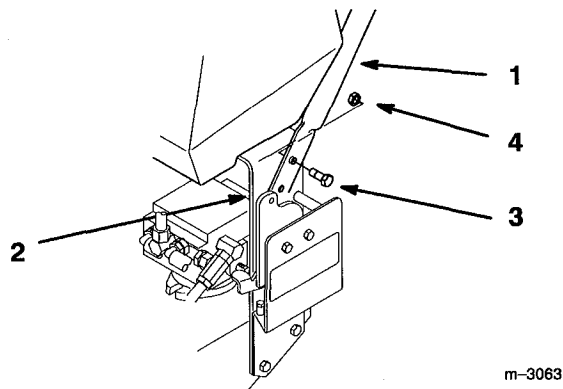

Figure 2
1. Align upper handle with mounting holes in rear frame (Fig. 2). Select high, medium or low position for lower mounting hole.
2. Secure each side with (2) 3/8-16 x 1" (26mm) flange bolts and flange nuts (Fig. 2). Torque bolts to 25 ft. lbs. (34 N·m).